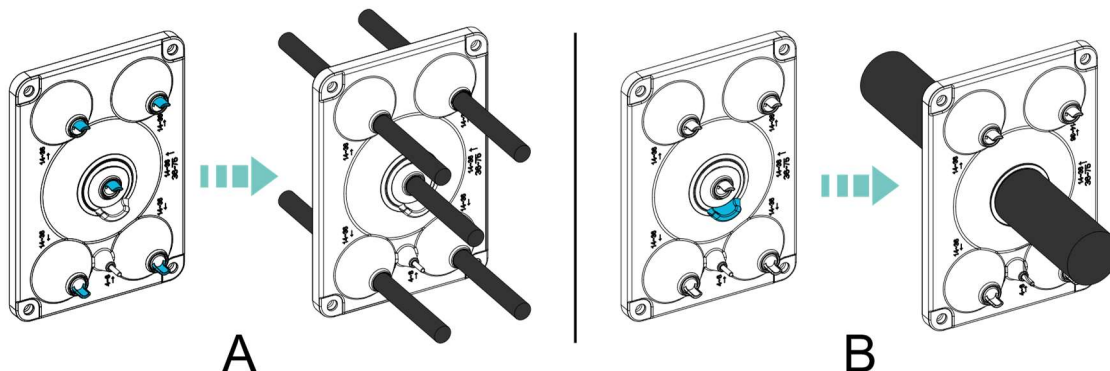

Fig 4-6 Route the cable through the seal ring
- For single-core outdoor cable, refer to Fig 4-6 (A). Note: When using the middle seal ring for routing, route grounding wire through it rather than L1, L2, L3, or N wire.
- For four-core and five-core outdoor cable, refer to Fig 4-6 (B).